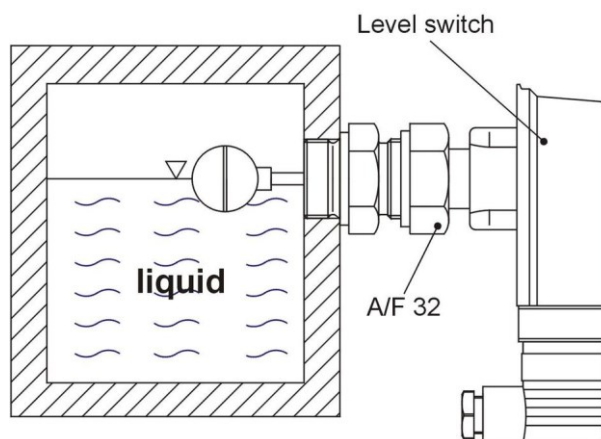

Fig. 3
- Install the level switch as shown in Fig. 3.